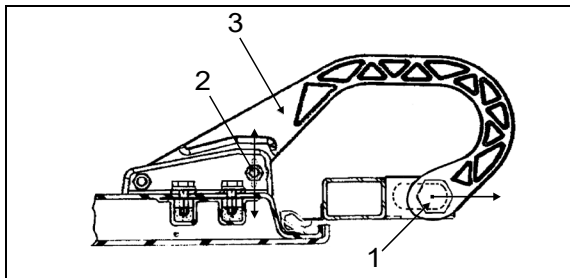

FIGURE 94: DOOR HINGE 18196
2. Loosen nut (1, Figure 94).
3. Move part (3, Figure 94) as shown in figure for "LEFT or RIGHT" adjustment.
4. Tighten nut (1, Figure 94).
5. Loosen nut (2, Figure 94).